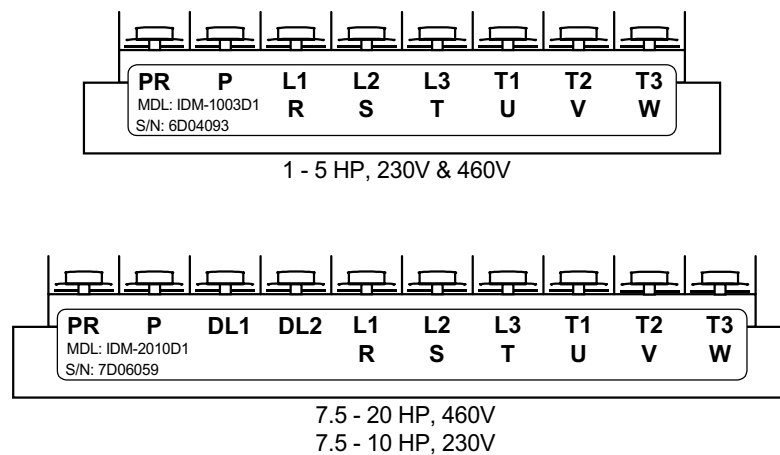

Figure 5.7 - Power Terminal Strip Details
8. Insure that the correct voltage source is connected to the AC drive input terminals (L1/R, L2/S, L3/T) not the output terminals (T1/U, T2/V, T3/W). Connecting a drive to the wrong voltage can cause equipment misoperation and/or equipment failure resulting in a safety hazard. Connecting AC line voltage to the output terminals will destroy the drive and void the warranty. Refer to Figure 5.7 for power terminal details and Figure 5.9 for a connection diagram.